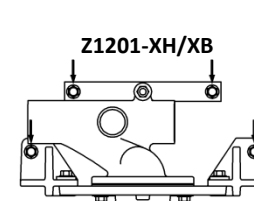

Figure 8b
- For Z1201-XH/XB, see **Figure 8b**.